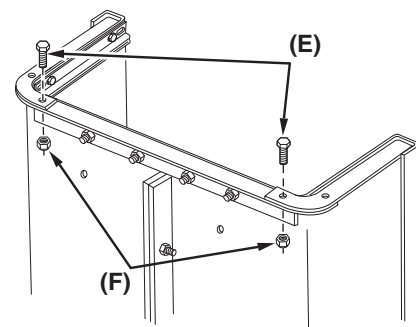

Figure 5
**STEP 5 (SEE FIGURE 5):** Temporarily install two 1/4" x 3/4" hex bolts (E) and 1/4" nylock nuts (F) into the holes as shown in figure 5.